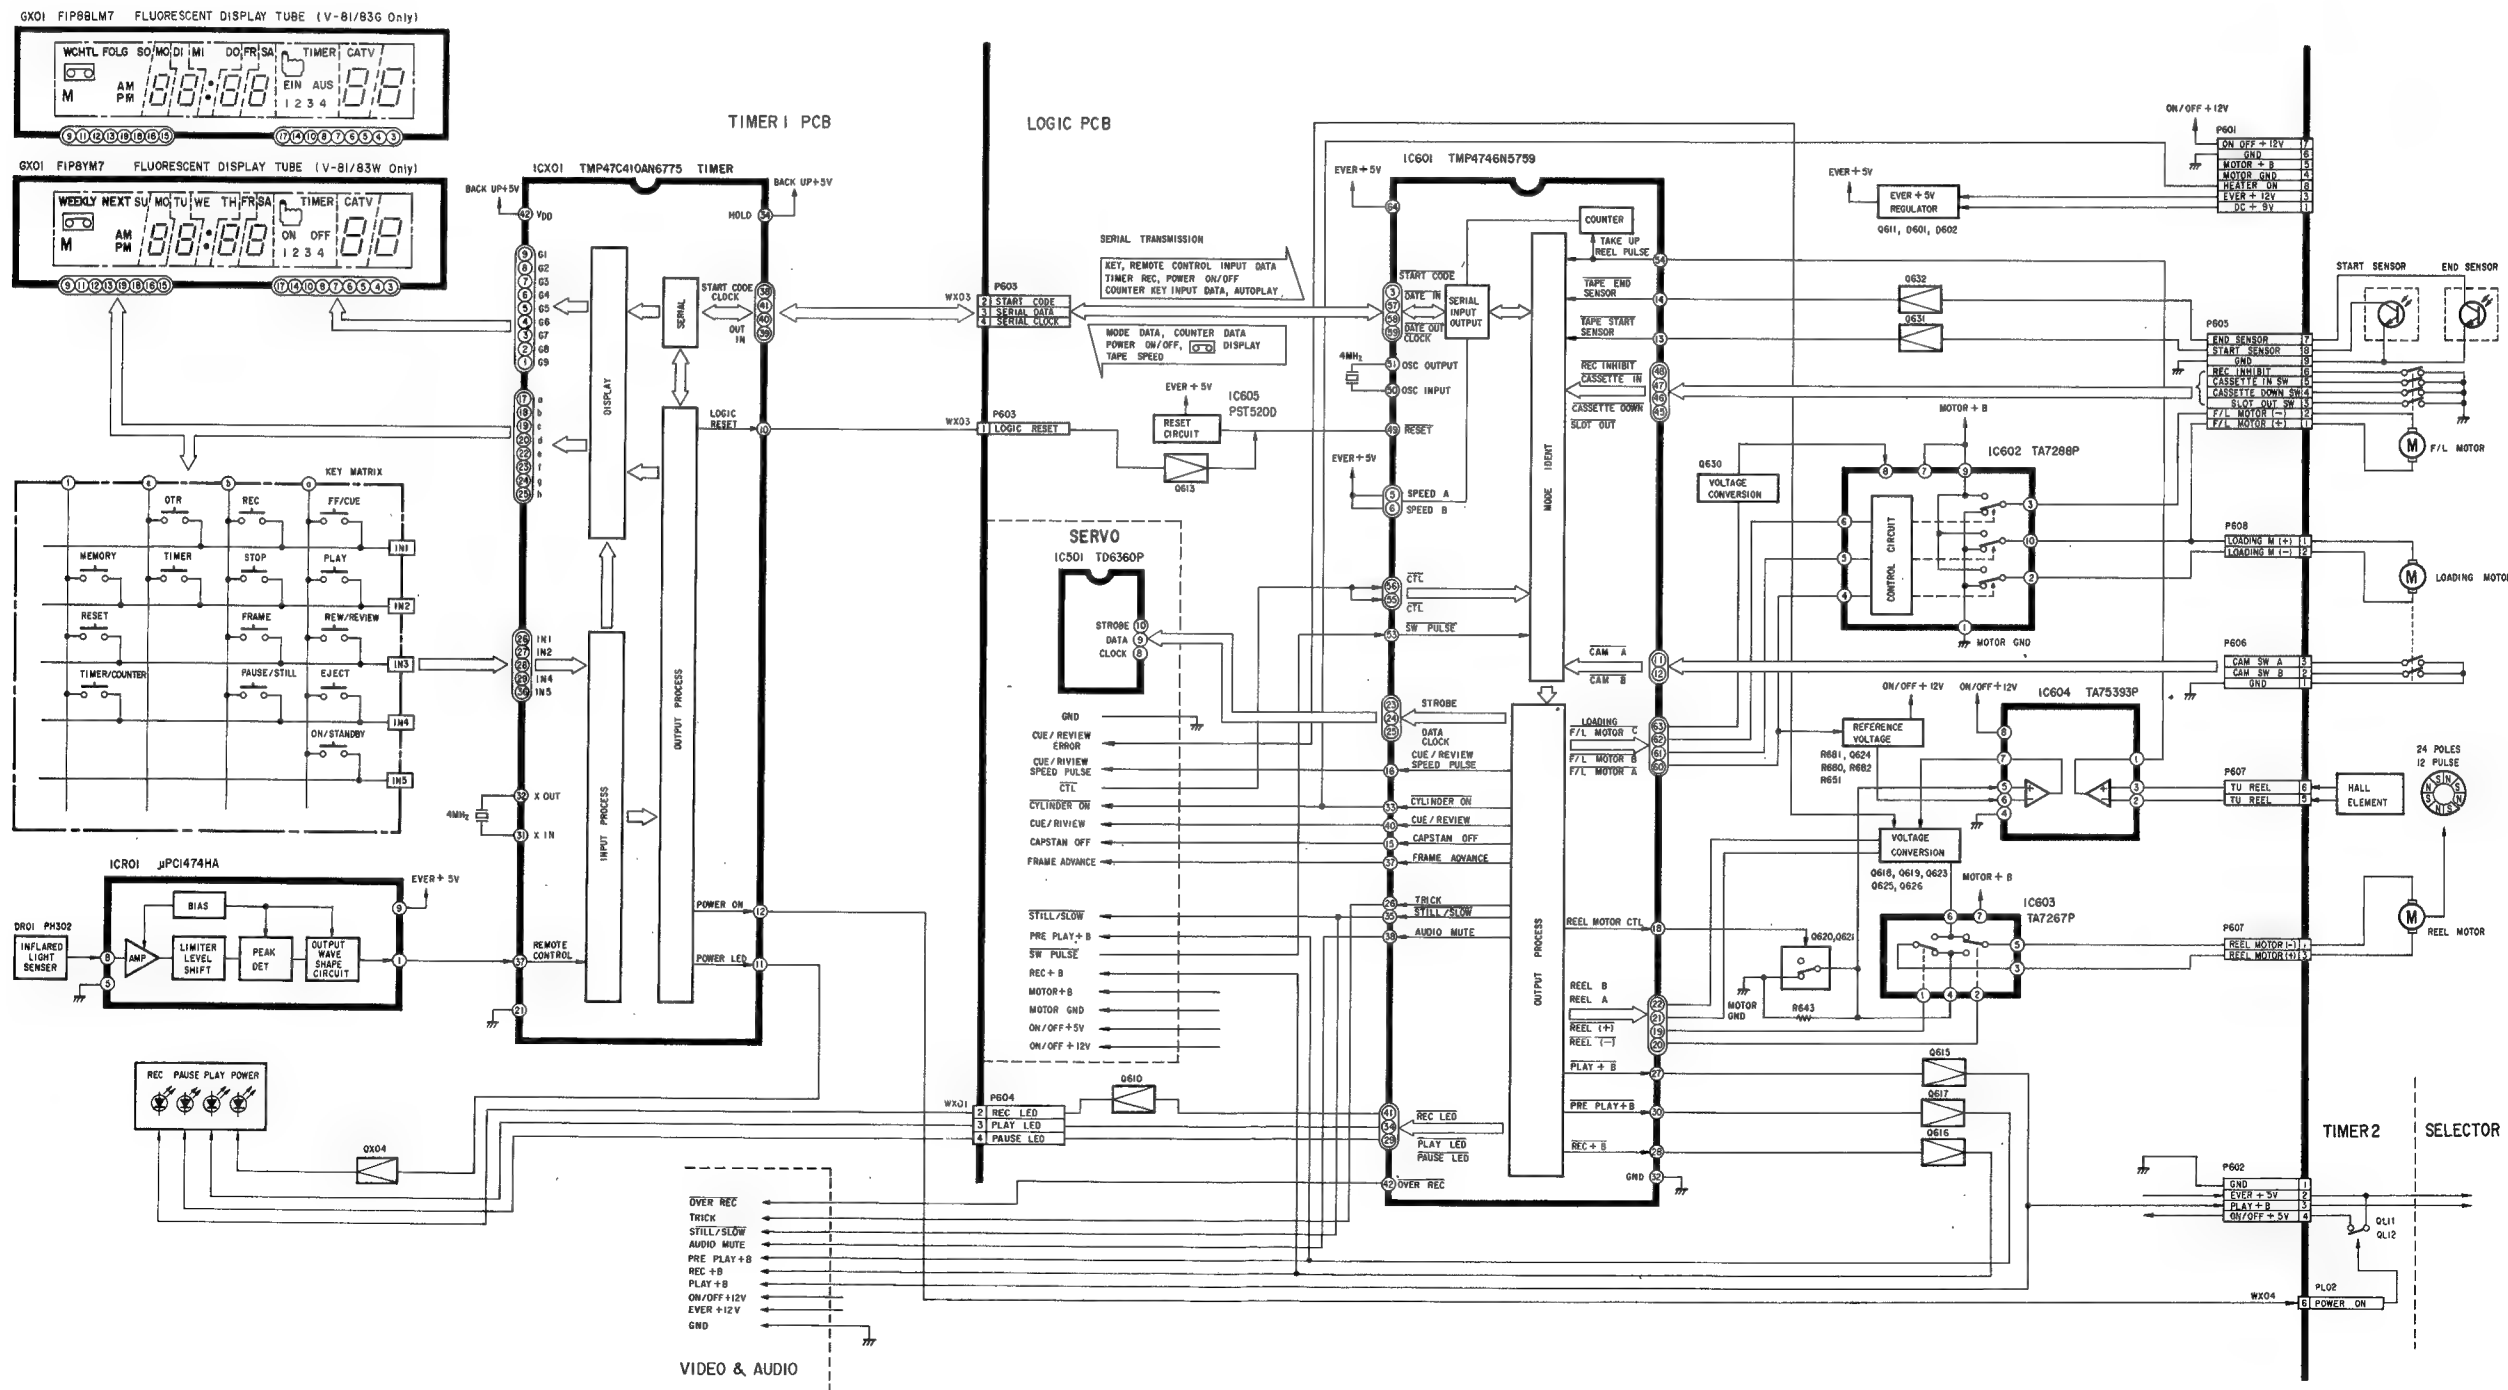

Fig. 4-4-1 Logic circuit system block diagram
- 3) Fig. 4-4-1 shows the system block diagram of the logic circuit.